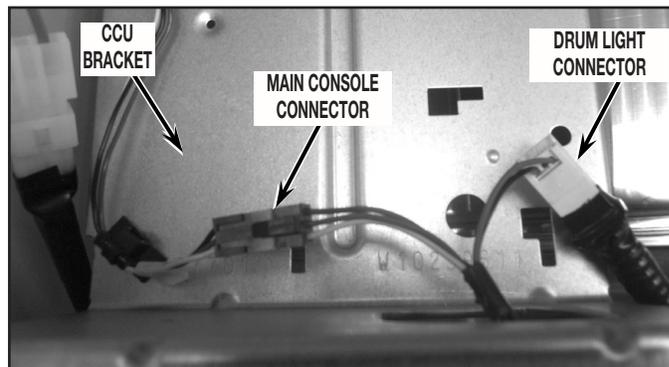

FIGURE 4
8. Disconnect drum light connector and main console connector as shown in *Figure 4*. Lift up on console and tilt assembly forward to remove console.